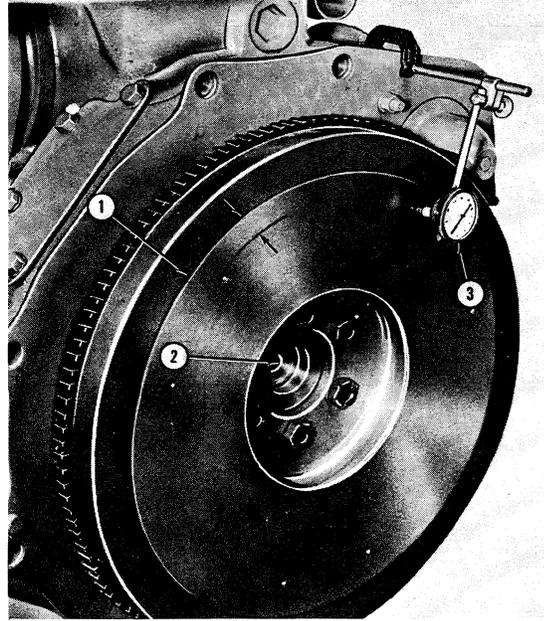

Figure 52
19. Install the flywheel and check the runout with a dial indicator, Figure 52. See Chapter 4 for tolerance. If runout is not within specifications, check mating surfaces.